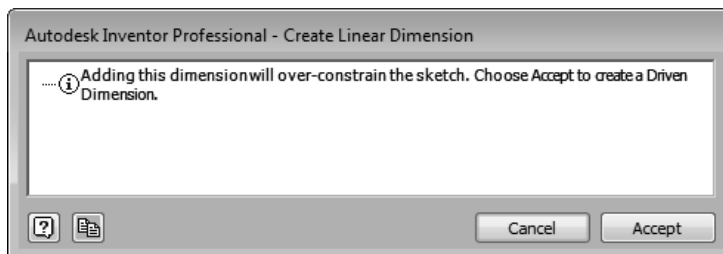
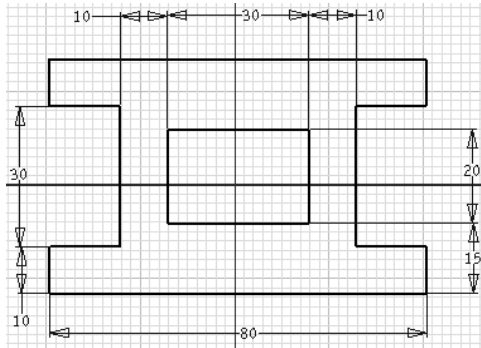

Figure 3-46 The Autodesk Inventor Professional message box
Figure 3-47 Sketch after adding dimensions
- Add the required constraints and dimensions to complete the sketch, refer to Figure 3-47.
With this, you have applied all the required constraints and dimensions to the sketch. Now the sketch is ready to be converted into a feature. If you try to add more constraints or dimensions to this sketch, **Autodesk Inventor Professional - Create Linear Dimension** error message box, informing that adding this dimension will over-constrain the sketch, see Figure 3-46. If you still want this dimension to be displayed, choose the **Accept** button from this message box. The dimension will be added as a driven dimension. A driven dimension is placed inside parentheses and is not used during the manufacturing process. This dimension is used only for reference. Note that you cannot edit the value of a driven dimension. The sketch after applying all dimensions and constraints should look similar to the one shown in Figure 3-47.